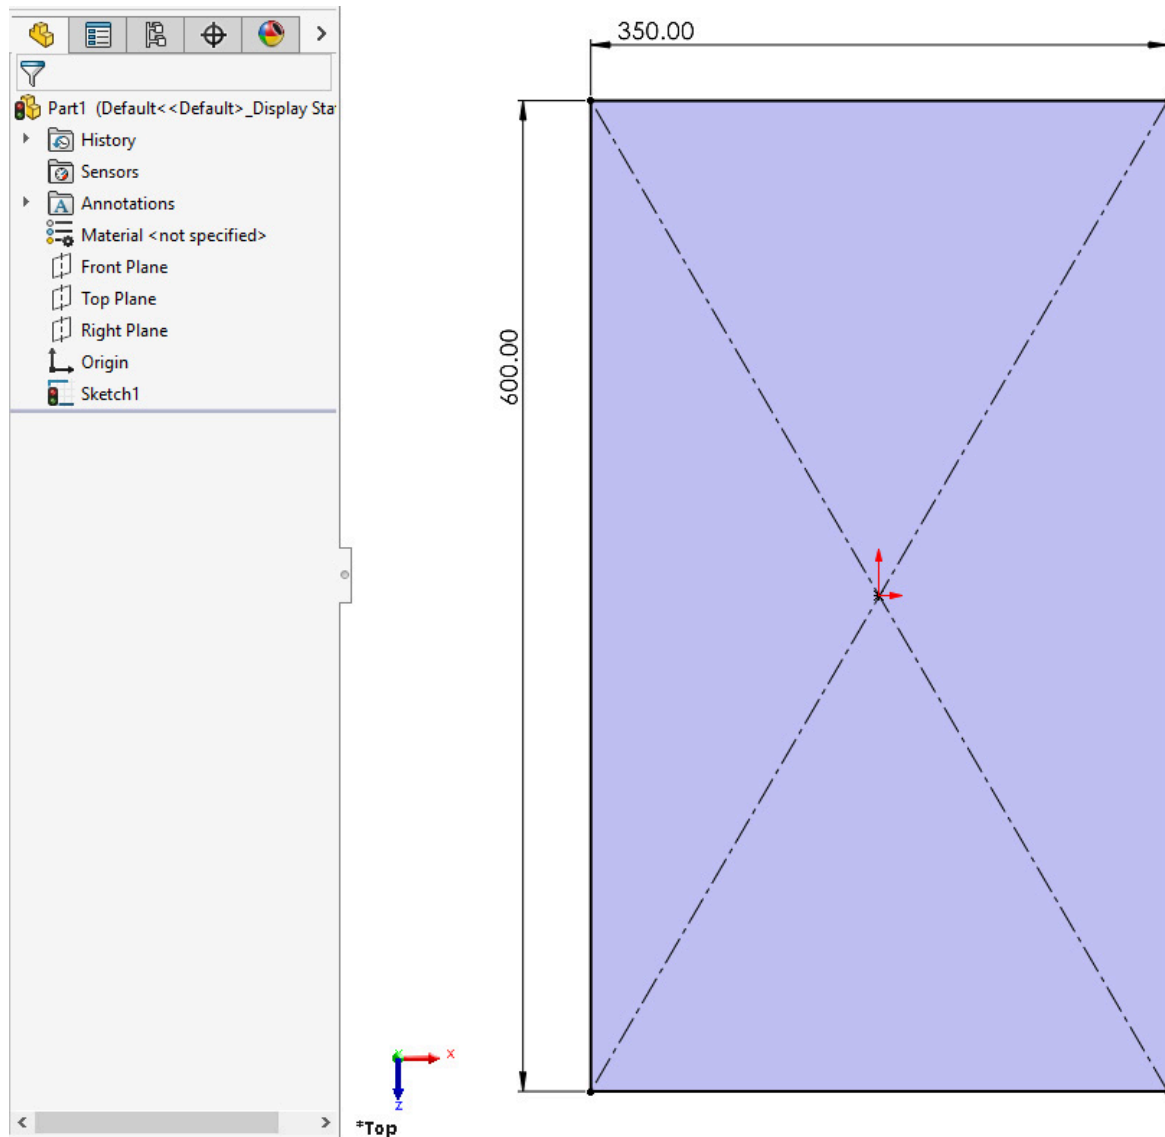

Figure 13.1 – Sketching a rectangle for the Base Flange profile
2. First, we will draw the **Base Flange** profile. Start a Sketch on the Top Plane and sketch a **350x600mm** rectangle, as shown in *Figure 13.1*: